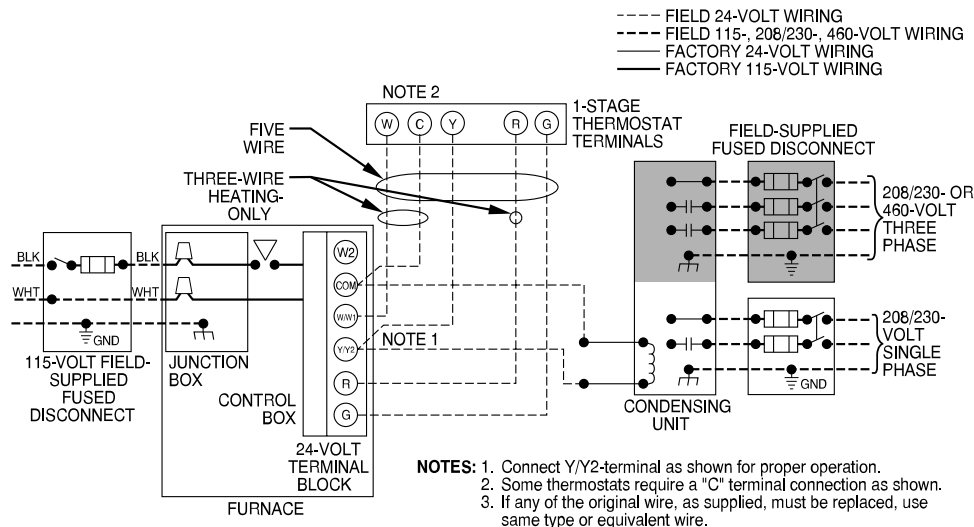

Fig. 25 – Field Wiring Diagram
See Fig. 25 for field wiring diagram showing typical field 115-V wiring. Check all factory and field electrical connections for tightness.
5. Connect line voltage leads, see Fig. 25.
Make field 24V connections at the 24V terminal strip, Fig. 25. Connect terminal Y/Y2 as shown in Fig. 25 for proper cooling operation. Use only AWG No. 18, color-coded, copper thermostat wire.